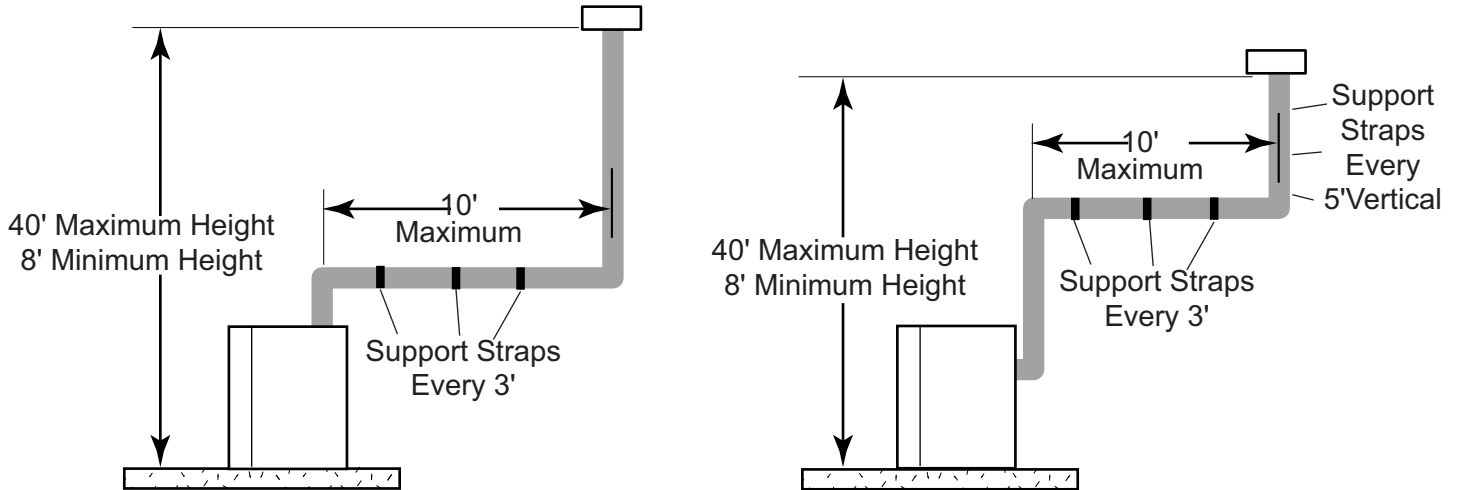

Figure 29 - Support Straps for Horizontal Runs
- Vertical installations up to 40' (12m) in height. Up to a 10' (3m) horizontal vent run can be installed within the vent system using a maximum of two 90° elbows. See Figure 29.